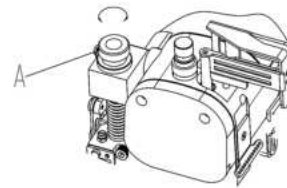

图22 (Fig.22)
3. 上滚轮压力的调整: 将压力调整螺钉(A)往顺时针方向转动, 则压力加大, 反之压力减小。(图22)
Turn pressure control knob (A) clockwise to increase the pressure of top roller, vice ver'sa (Fig.22) .